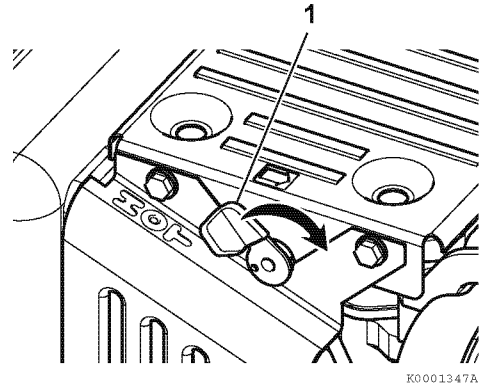

Figure 6
This engine is equipped with a decompression lever (1, **Figure 6**).
4. Push the decompression lever (1, **Figure 6**) down and release it. The decompression lever will automatically return to the original position when the engine starts.
Some L-N model engines are equipped with an automatic, internal compression release mechanism and do not have the decompression lever (1, **Figure 6**). In this case, follow the procedure below.